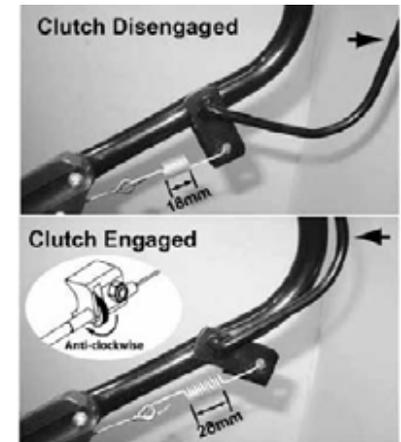

figure 17 . Clutch adjustment
Refer to figure 17.
Adjusting the Drive Cable-refer figure 17.
- ★ Measure the length of the clutch spring(18mm) when the clutch engagement lever is in the disengaged position. Refer to figure17.
- ★ Push the clutch engagement lever forward until it touches the handlebar (drive engaged position). The clutch spring should be stretched to 28mm (10mm longer). Refer to figure 17.